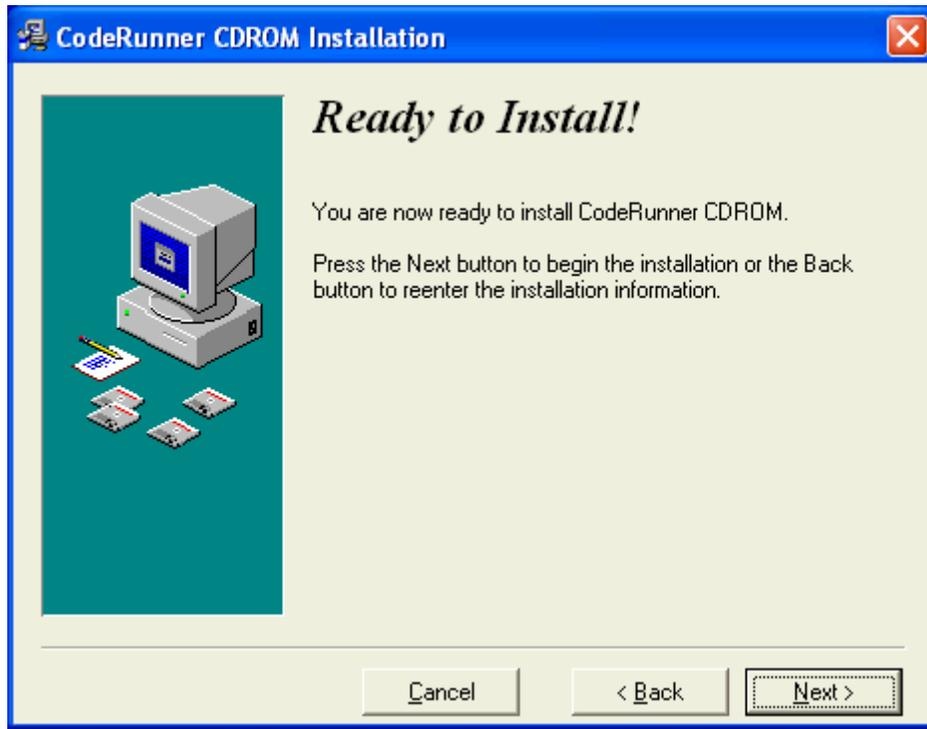

Figure 2-8. Ready to Install Screen
Figure 2-8. Ready to Install Screen.....	2-9
10. The **Ready to Install** screen shown in Figure 2-8 will now appear and is the last screen to appear before the application files are copied to your computer. If you need to change any of the installation parameters, click on the Back button. Otherwise, click on the **Next** button and the installation process will begin.